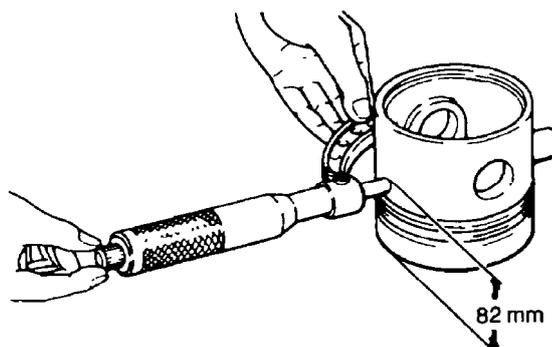

**Figure 29 Measuring the Gudgeon Pin**
- t. Measure the diameter of the gudgeon pin with a micrometer (Figure 29). The standard diameter is 35.0 mm (1.377 in) and the wear limit is 34.95 mm (1.375 in). Replace the gudgeon pin if wear exceeds the limit.